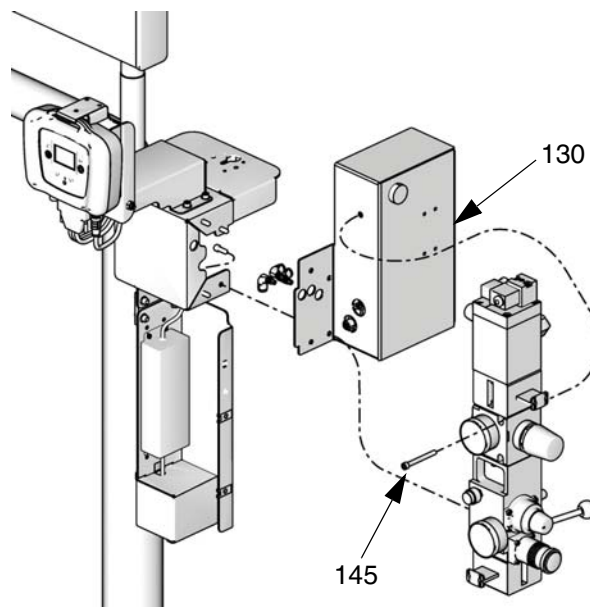

FIG. 12
See FIG. 12.
8. Insert cap screw (145) through integrated air controls into 2-button interlock module. See FIG. 12.